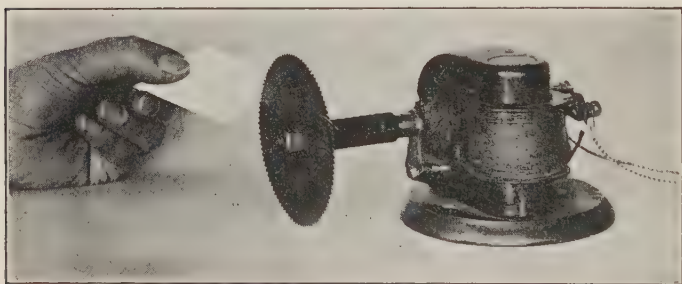

FIGURE 226. — SAVART'S WHEEL.
**152. Pitch.** — By *pitch* is meant the highness or lowness of a tone. Pitch depends upon the number of waves per second produced by the vibrating body, and so upon the length of the sound waves. This can be shown experimentally by the use of Savart's wheel (Figure 226). This is a brass wheel with projecting teeth equally distributed on its circumference and mounted so that it can be rotated at various speeds.